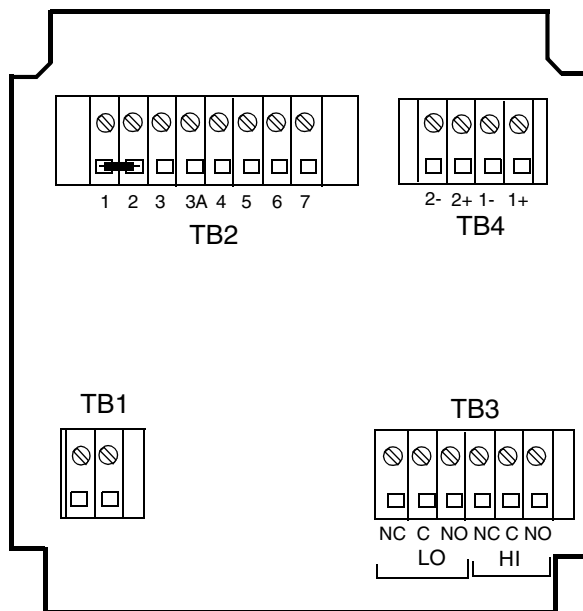

Figure 28. Temperature Simulation (Metal Unit Shown)
- a. Connect a 110 Ω resistor across Terminals 1 and 2 on Terminal Strip TB2. Refer to Figure 28.